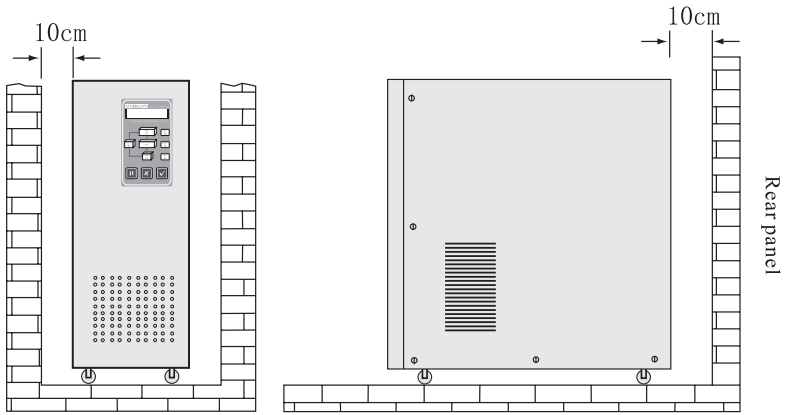

Figure 5
2. Please place the UPS in the place where keeps good ventilation, rear panel of UPS and two side faces should keep more than 10cm away from the wall. (Figure 5)